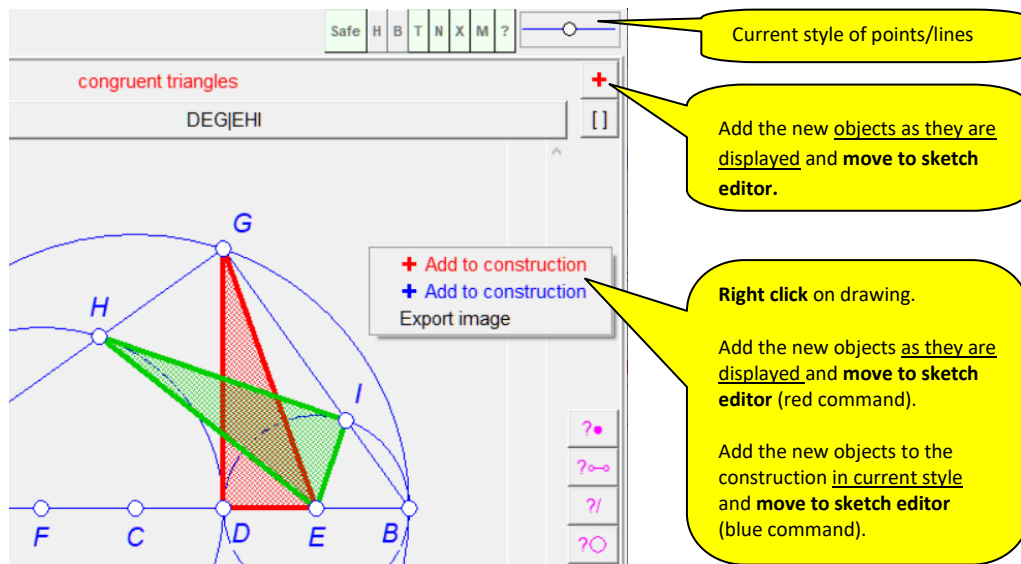

Figure 45
Sometimes we want to include objects on a visualised relation in the construction under consideration. For example, OK Geometry detects two congruent triangles (Figure 45). To include these two triangles in the construction, we can proceed in two ways:
- If we choose the **+** command, the added objects will be displayed as ordinary objects (Figure 45).